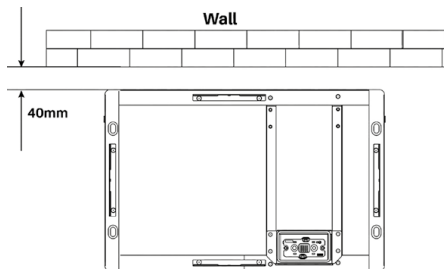

Fig. 3.13 - Wall distance
- Put the base along the wall and reserve 40mm distance between back of the base and the wall (Fig. 3.13).